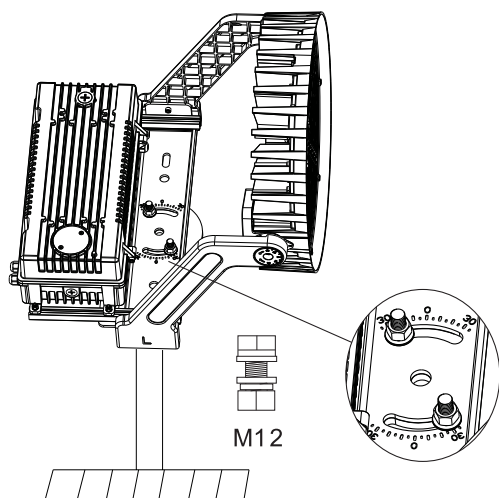

Figure 7
1. According to the need to adjust the lighting direction, can be 360 degrees rotation adjustment, tightened with screws when the adjustment is completed (Fig 7)